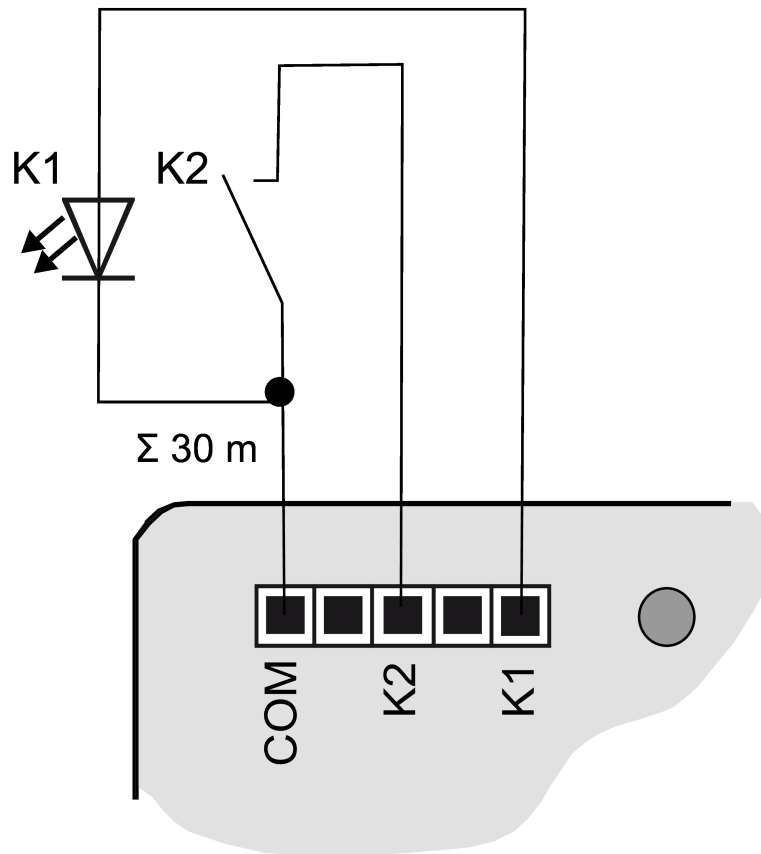
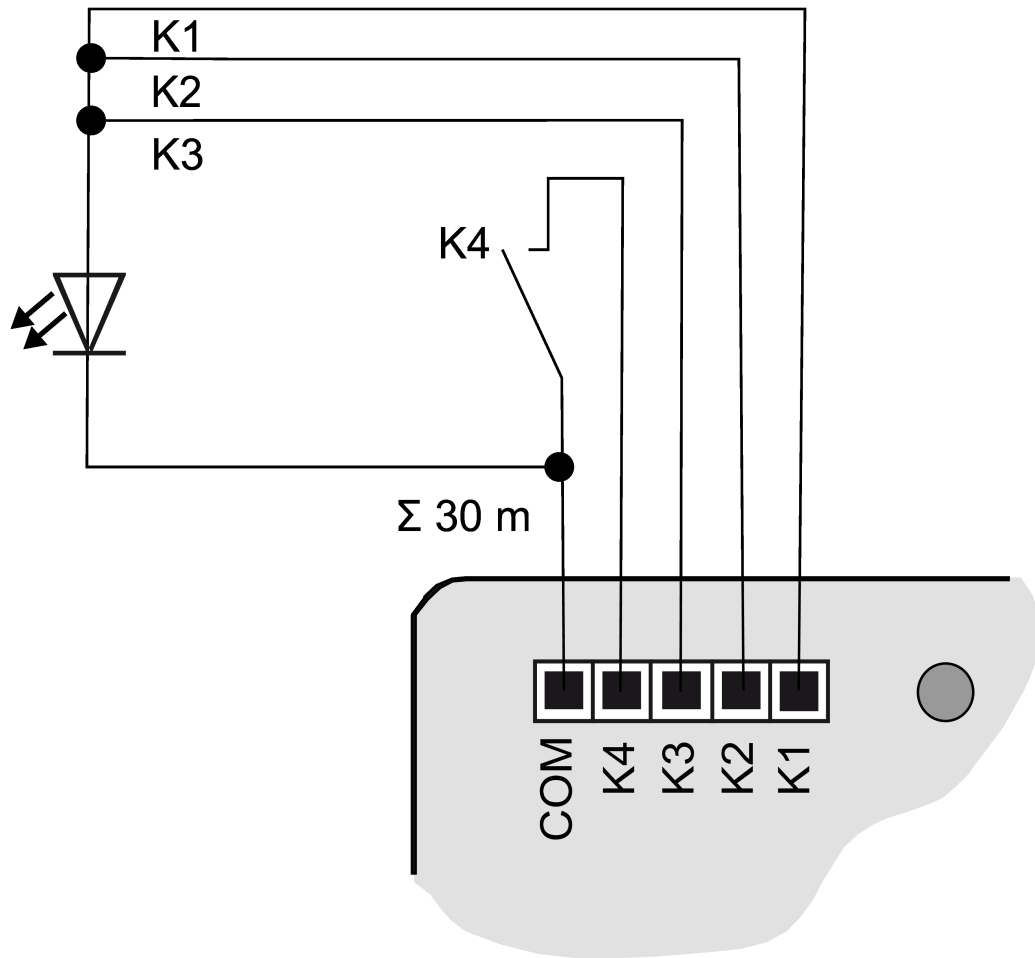

Figure 6: Connection example: push-button interface 2-gang
Figure 9: Connection example with outputs switched in parallel
- Connect push-buttons, switches, contacts, LED or NTC to enclosed connecting cables (4) according to the connection examples; (see figure 6) to (see figure 9). The connection examples show the use with inputs and outputs.
- i** To increase the output current, outputs can also be switched parallel to each other with the same parameterization; in the example here, (see figure 9) **K1-K3** are switched in parallel.